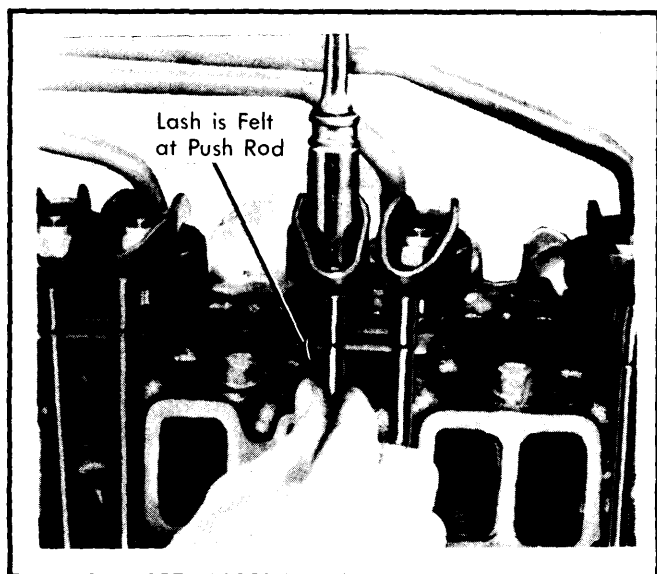

Fig. 7 Adjusting Valve Lash
- 2) Adjust valves by backing off adjusting nut until lash is felt at push rod. Then tighten until all lash is removed. Tighten nut  $1\frac{1}{2}$  additional turns. See Fig. 7.